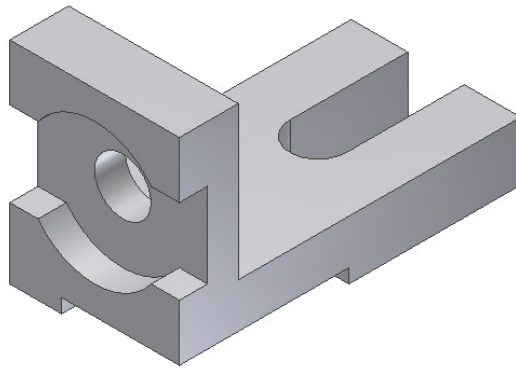

Figure 5-95 Solid model for Tutorial 2
- d. Define a new sketch plane on the new face that is exposed by creating the last cut feature and create a circular cut feature, refer to Figure 5-95.
- e. Create the final cut feature on the top face of the horizontal base of the first feature, refer to Figure 5-95.
3. Extrude the sketch using the **Cut** operation. Use the **All** option from the **Distance** drop-down list in the **Extents** area. The final model for Tutorial 2 is shown in Figure 5-95.